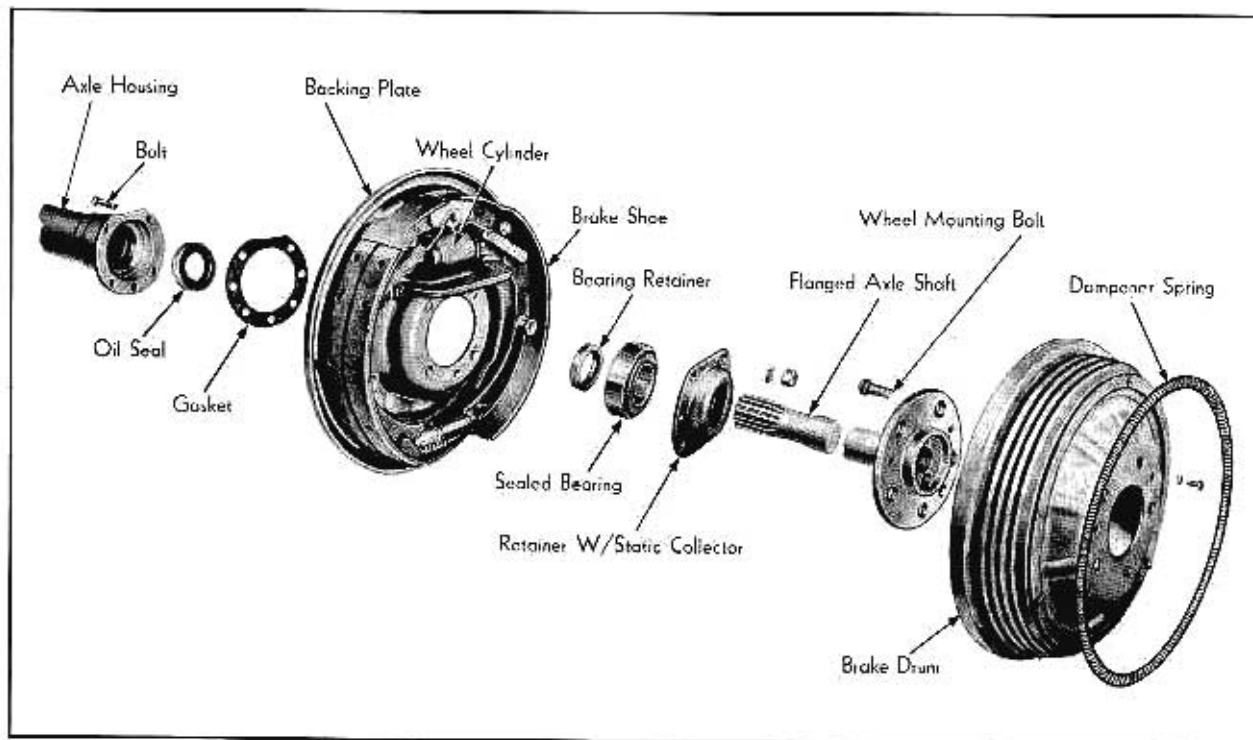

Fig. 6-26 Rear Wheel - Disassembled
3. Remove screws holding brake drum to axle shaft flange. Fig. 6-26.